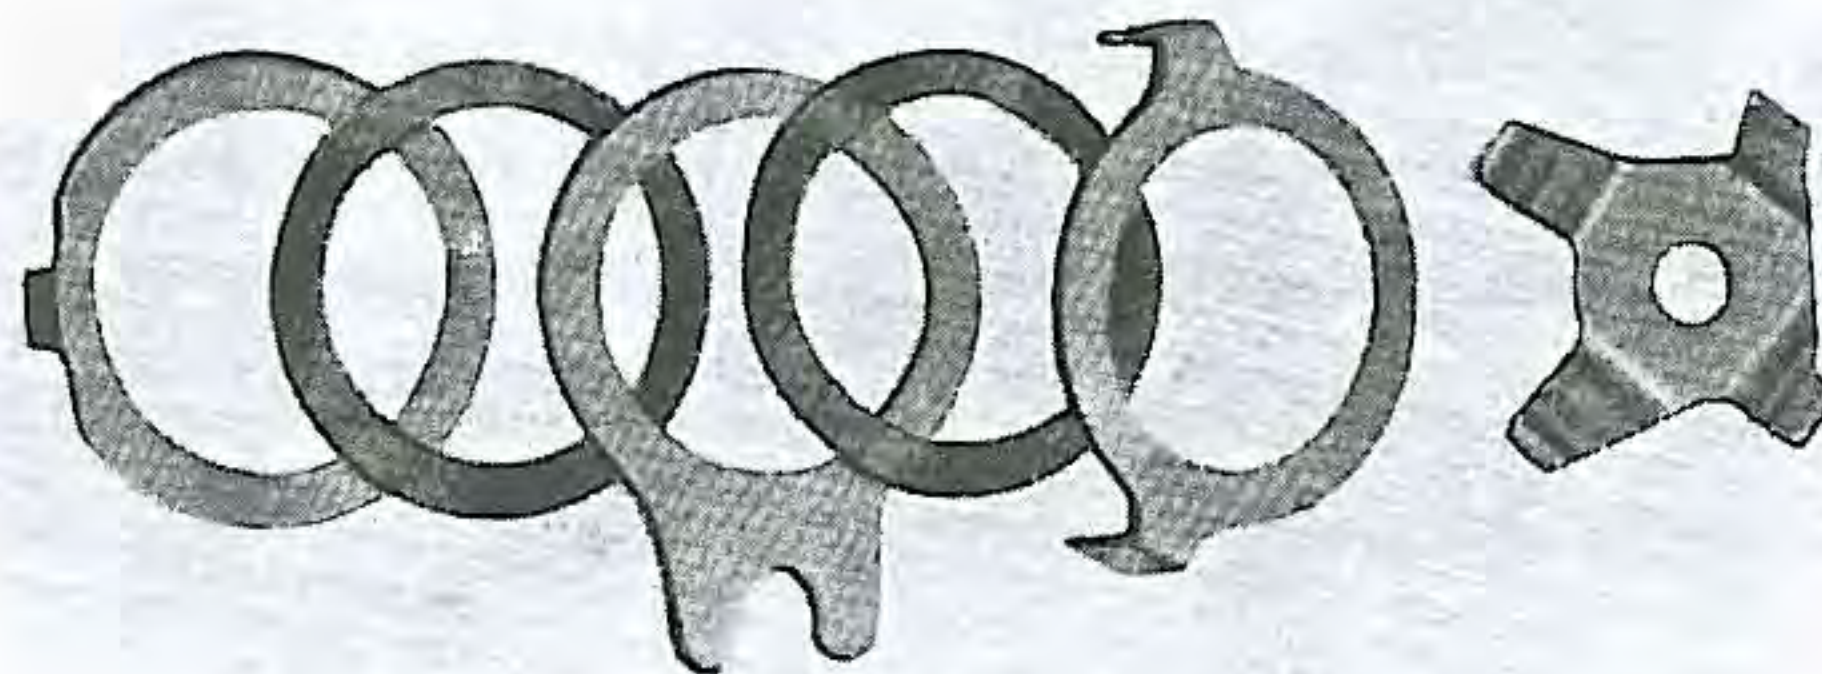

Fig. II-9. Display of steering damper friction plates. (CB92 CA95)
- (1) Remove front wheel (P. 85) placing a suitable support under the crank case.
- (2) Remove the steering handle damper for CB92 and CA95. (Fig. II-9)